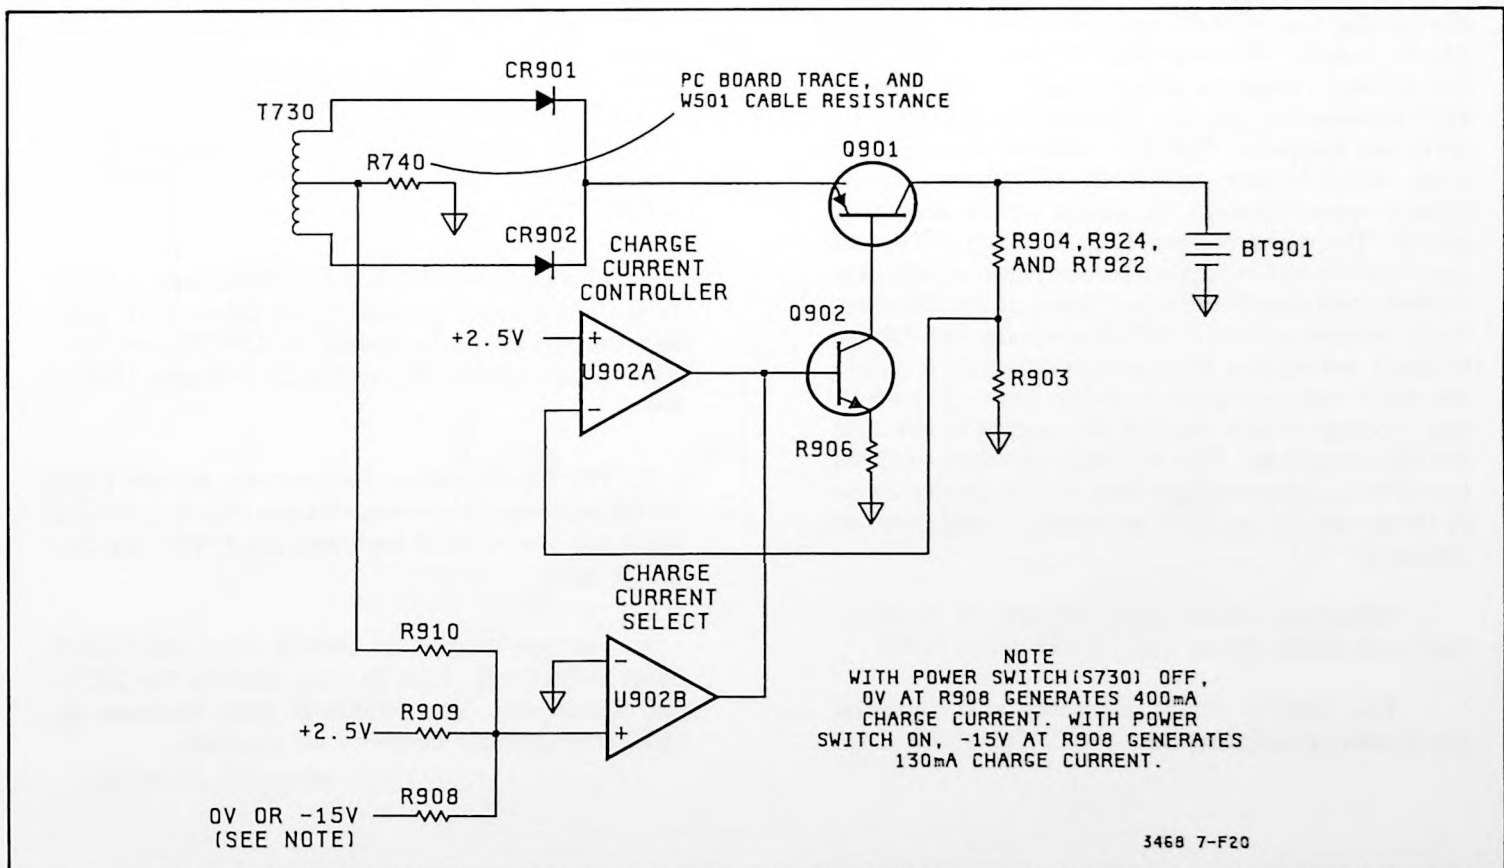

Figure 7-F-20. Simplified Schematic Of The Battery Charger
**7-F-76. Battery Only Operation.** In this mode, the DC to DC Converter generates the raw power supply voltages for the 3468A/B's power supplies. Three conditions must be met for the converter to operate: the ac power source is disconnected from the multimeter, the instrument is on (power switch on), and the battery voltage must be high enough. The following steps explain the operation of the DC to DC Converter. Refer to Figure 7-F-21 (simplified schematic of the DC to DC Converter) for the explanation.